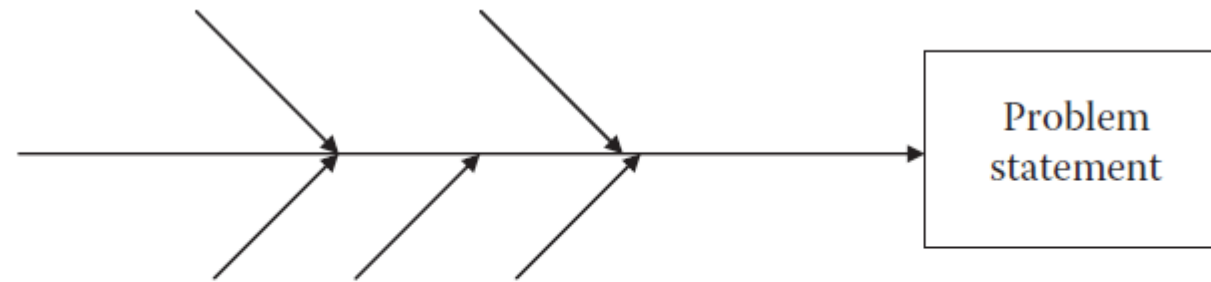
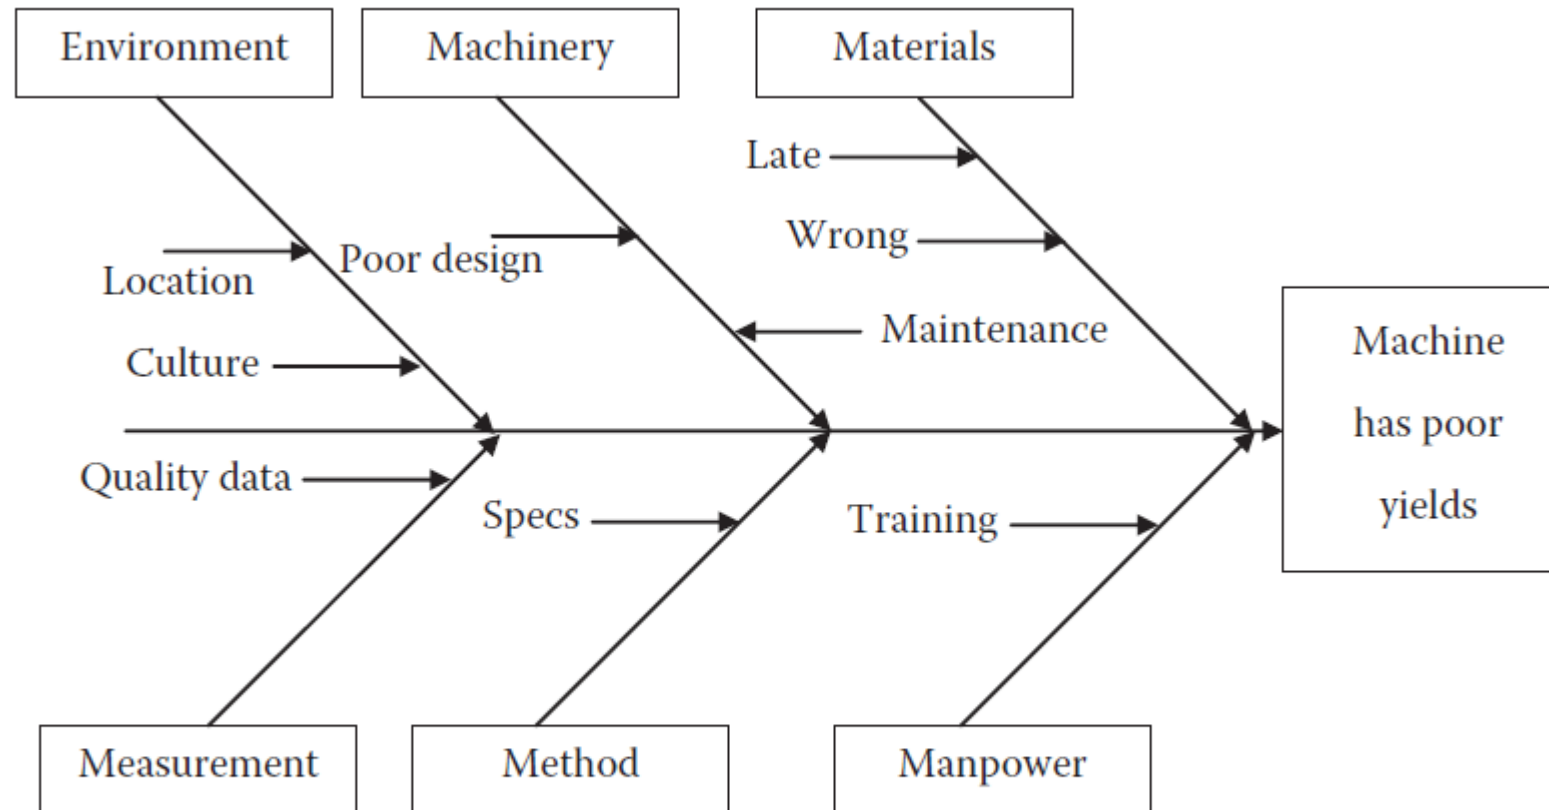

Figure 11.3 Bones (major cause categories). Note that there is no perfect set or number of “bone” categories—they can be modified to fit the problem.
Figure 11.4 Fishbone diagram to examine poor process output.
- ❑ Figure 11.3 displays a sample layout of this diagram and Figure 11.4 displays an example of a filled-out diagram relating to the car case study.